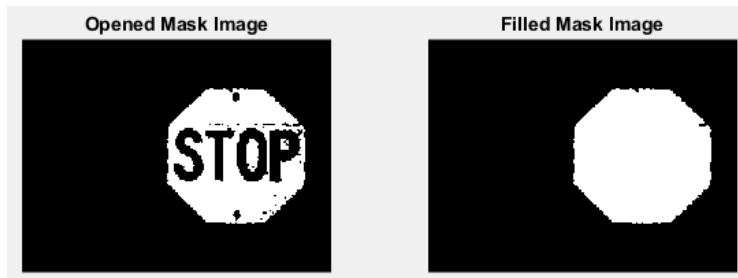

Figure 7: Filled mask image
2. Next, any “holes” inside the mask can be assumed to belong to the object that has been identified as a red traffic sign and can be closed using the function “imfill”. For a stop sign, this function will eliminate the “STOP” text in the red object mask. Apply “imfill” with the “holes” option to your opened mask image. You should obtain a result similar to Figure 7 below.